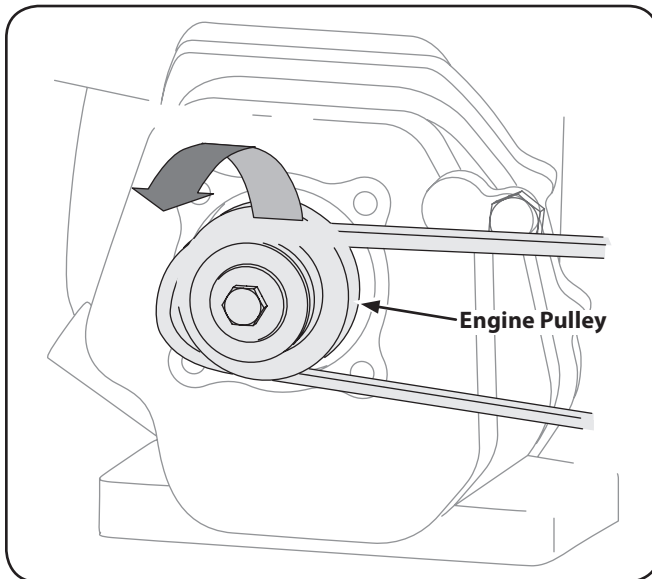

Figure 5-6
9. Remove the belt from the reverse idler pulley and then from around the transmission pulley. See Figure 5-6.